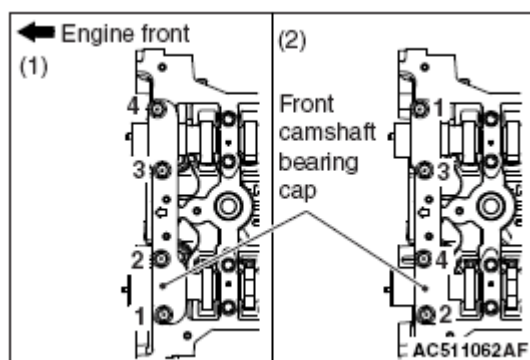

Fig. 65: Identifying Front Camshaft Bearing Cap To Cylinder Head
1. Install the front camshaft bearing cap to the cylinder head, and temporarily tighten the front camshaft bearing cap mounting bolts to the specified torque in the order of the (1) in **Fig. 65**.
2. Tighten the front camshaft bearing cap mounting bolts again to the specified torque in the order of the (2) in **Fig. 65**.